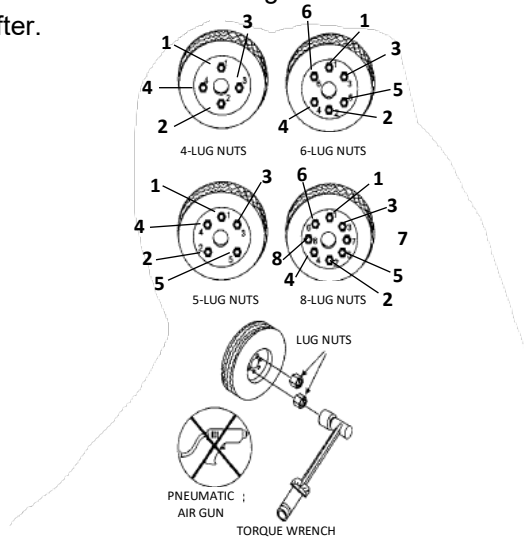

Figure 2-M. Wheel Lug Nuts Tightening Sequence
2. Torque all lug nuts in sequence. See Figure 2-M. **Do Not** torque the wheel lug nuts all the way down. Tighten each lug nut in 3 separate passes as defined by Table 3A.